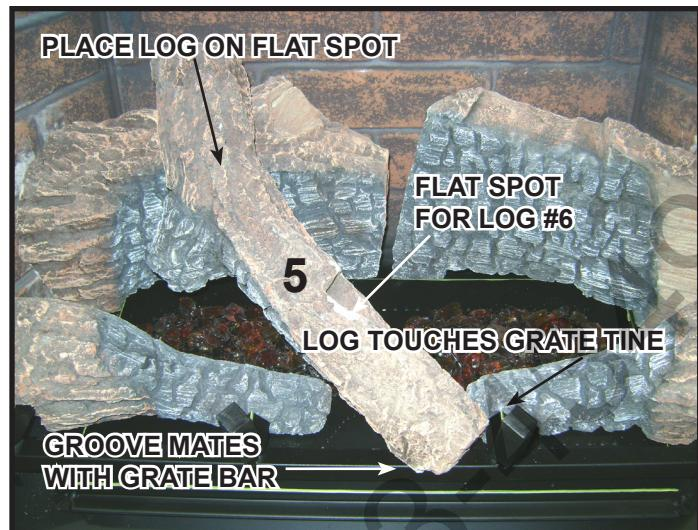

Figure 8. Place Log #5
**Log #6 (SRV2201-706):** See Figures 2 and 4 for additional references. Place the thick end of the log on the flat spot of Log #2. Place the thin end of the Log #6 on the flat spot of Log #5 as shown in Figure 8.